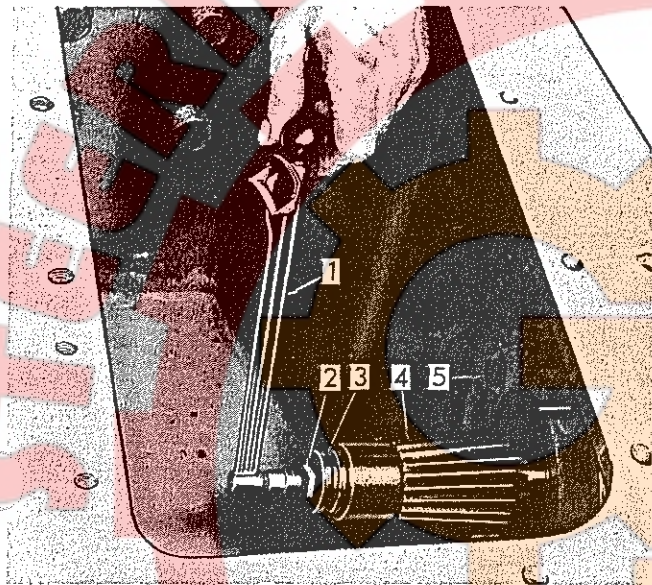

Fig. 23 Checking Pre-Load of Bevel Gear Shaft Bearings (T-25732)
- b. Refer to Fig. 23, turn bevel gear shaft with pounds inch indicating torque wrench to determine pre-load on bearings; specified pre-load is 10 to 20 lbs. in. (.003" - .004" tight). Add or remove bearing adjustment shims (equally) under bearing cages to obtain specified pre-load. When adjusting, bump bearing cages to make certain bearings are properly seated.